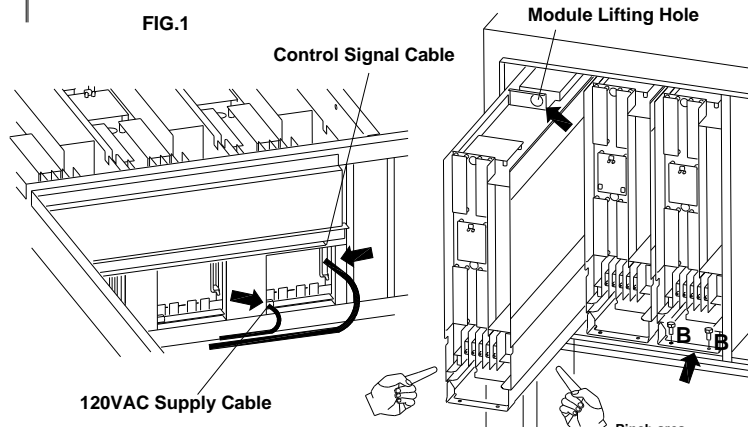

FIG.3
3. Disconnect PCB connectors marked CN1 and CN5. Figure 3. Set wires up on support rail to avoid snagging during cell removal.
4. Remove bus connection bolts (4). Figure 3.
5. Remove cell mounting nuts (2). Figure 3.
4. Disconnect Control Signal Cable and 120VAC Supply Cable from bottom of Cell. Access from below through LV Compartment. Figure 3.